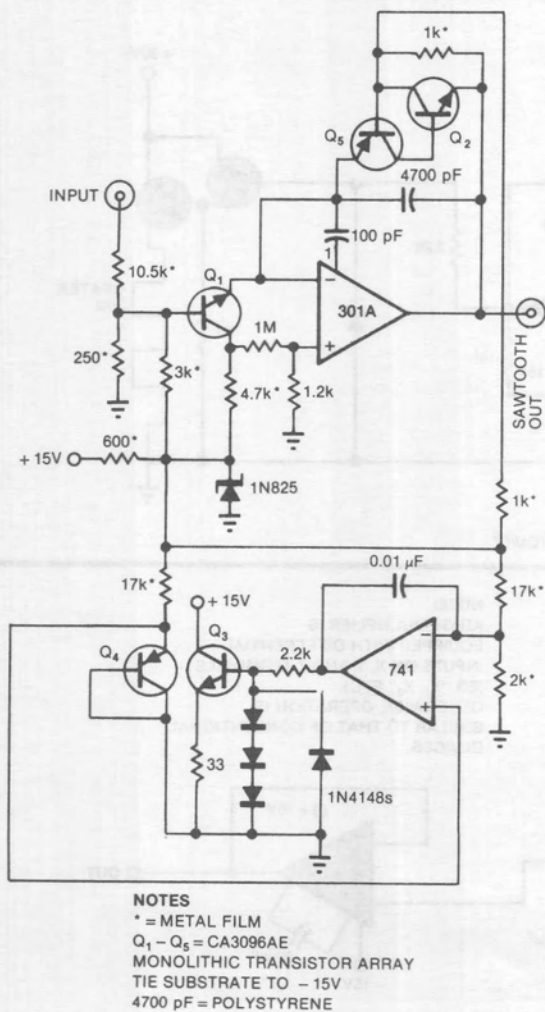

Fig 15—This V/F circuit suits electronic-music applications, but what function do the 741 op amp and associated components perform?
20. The voltage-to-frequency-converter circuit shown in Fig 15, intended for electronic-music applications, features an output frequency exponentially related to its input voltage. For the values shown, the circuit produces a precise doubling of frequency output for each volt of input applied, from 20 Hz to 14 kHz. From 15 to 45°C, the circuit achieves negligible drift and